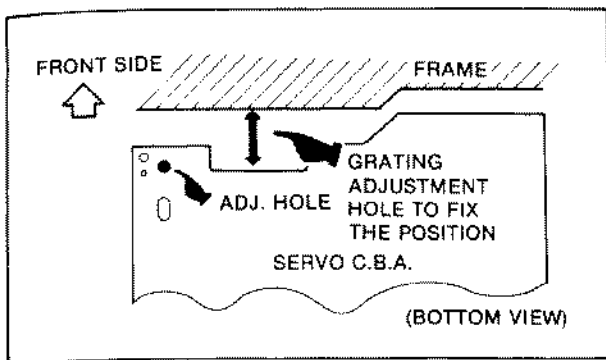

Fig. E13
- Play back the CD Test Disc. At this time, Grating Hole can be seen through space which is between Servo C.B.A. and Frame as shown in Fig. E13.